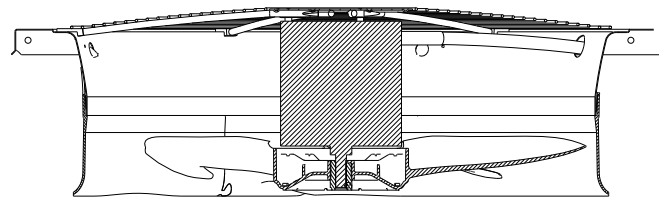

Fig. 28 — Condenser-Fan Adjustment
2. Remove condenser-fan assembly (grille, motor, and fan). See Fig. 28.